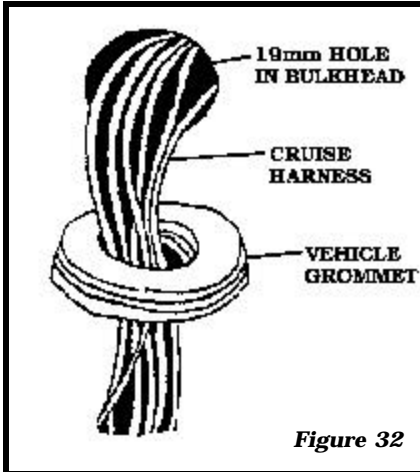

Figure 32
C. **CRUISE HARNESS** needs a **19mm (.75")** hole to pass through bulkhead. You may find one nearby, such as the speedometer cable hole or a small one you can file larger. If you find the right size hole in the right place, remove vehicle grommet. If not, drill, saw, or punch a **19mm** hole in bulkhead. A hole a few millimeters to the left or slightly higher than the steering column is usually a good place. **Figure 32**
Seal hole in bulkhead with **SEALING PUTTY** as shown in **Figure 32**.